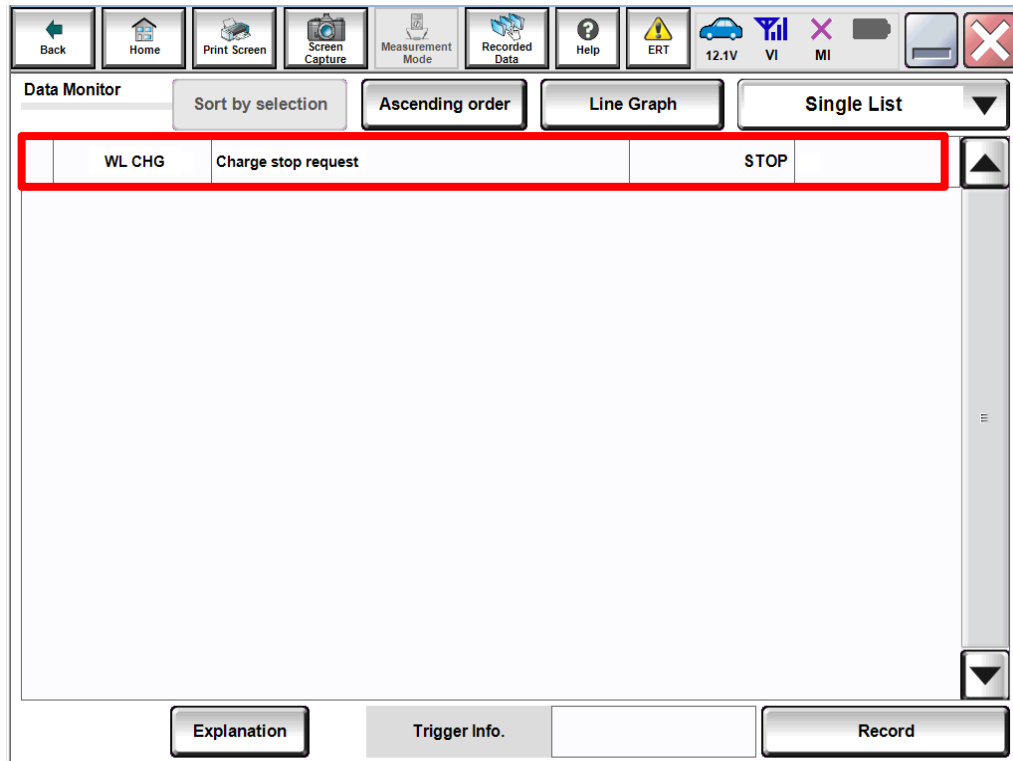

Figure 10
13. Confirm if the **WL CHG** status shows the **Charge stop request** as "STOP" (Figure 10).